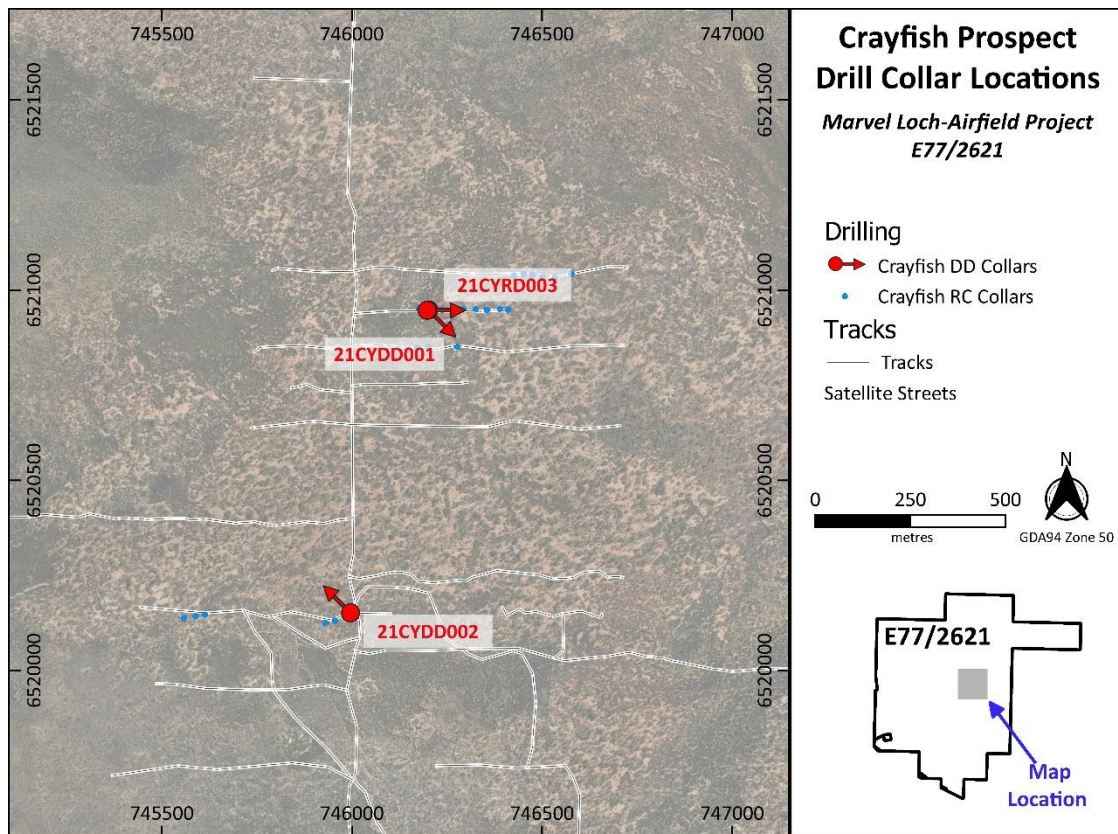

Figure 2: Drill Collar location map, with arrow indicating azimuth hole was drilled.
Three (3) holes were completed for a total 363.1m (including 112.1m of mud rotary pre-collars and 251m of NQ2 core) at the Crayfish Prospect. Collar Locations are provided in Figure 2.